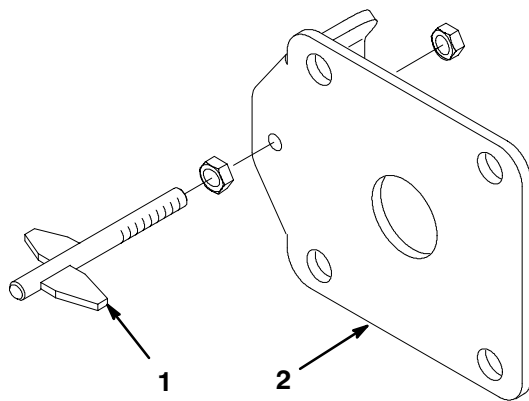

**Figure 3**
3. Locate, mark, and drill a 3/8" diameter hole in each of the roller tension plates (Fig. 3).